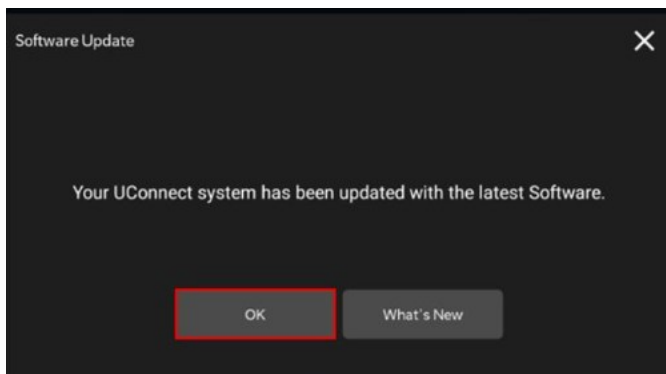

Fig. 6
17. Press “OK” to continue Fig. 6.